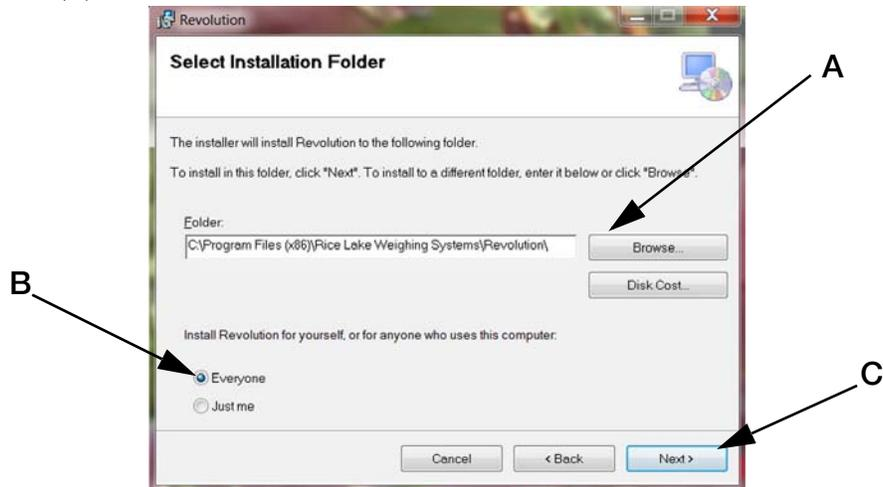

Figure 4-6. *Select Installation Folder*
5. The next screen is the *Select Installation Folder* (Figure 4-6). Select path to save to (A) and who can use it (B). Click **Next** (C).